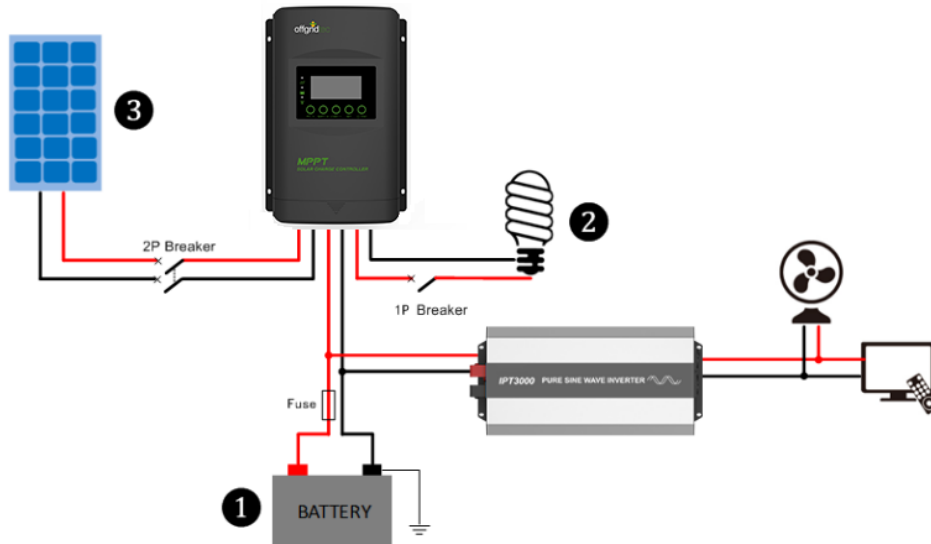

Figure 2.2 Schematic of wiring diagram
Step 2: Connect the system in the order of ① battery ② load ③ PV array by Figure 2.2 "Schematic Wiring Diagram" and disconnect the system in the reverse order ③②①.